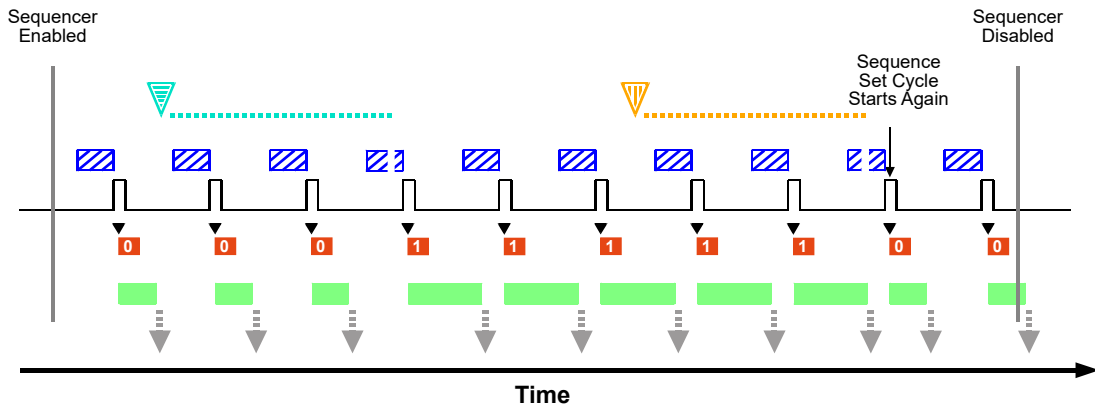

Fig. 61: Sequencer in Controlled Sequence Advance Mode with Disabled as the Sequence Control Source and Asynchronous Advance and Restart
The following use case (see also Figure 61) illustrates the operation of the sequencer in controlled sequence advance mode with Disabled selected as the sequence control source. Sequence set advance proceeds in ascending sequence set index numbers subject to asynchronous advance commands. After one sequence set cycle is complete, another one starts. Sequence set cycle restarts are subject to asynchronous restart commands.
set 1, are loaded into the active set. Note that the camera briefly exits the "waiting for frame start trigger" status while the parameter values of sequence set 1 are loaded into the active set (see also Figure 61).
- When the AsyncRestart command becomes effective, the camera happens to be in "waiting for frame start trigger" status. The parameter values of sequence set 0 are loaded into the active set. Note that the camera briefly exits the "waiting for frame start trigger" status while the parameter values of sequence set 1 are loaded into the active set (see also Figure 61).